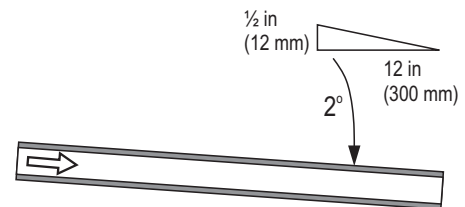

Figure 14: Steam Line Slope
- The steam line must have a constant minimum upslope of 2 in/12 in (10°), or a constant minimum downslope of 1/2 in/12 in (2°), as shown in Figure 14 on page 31.